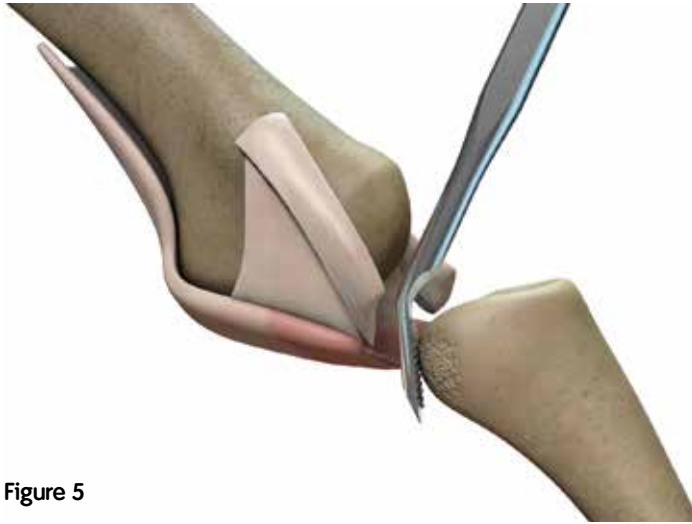

Figure 5
6. Denude the ligament insertion sites using the Double Ended Rasp (REF 72204349) to promote healing (Figure 5).